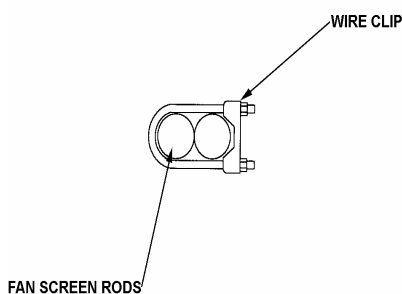
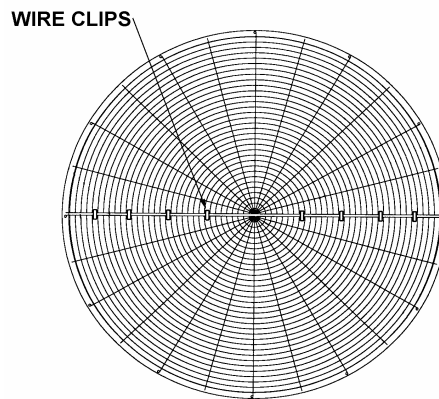

Figure 16 - Wire Clip Arrangement
Figure 17 - Wire Clip Spacing
3. Join the two screen halves with wire clips (Figure 16). There should be 4 wire clips on each side of the fan screen. Space the wire clips evenly across the radius of the fan screen as shown in Figure 17.
3. Join the two screen halves with wire clips (See Figure 16). There should be four clips on either side of the fan screen. Space them evenly as shown in Figure 17.